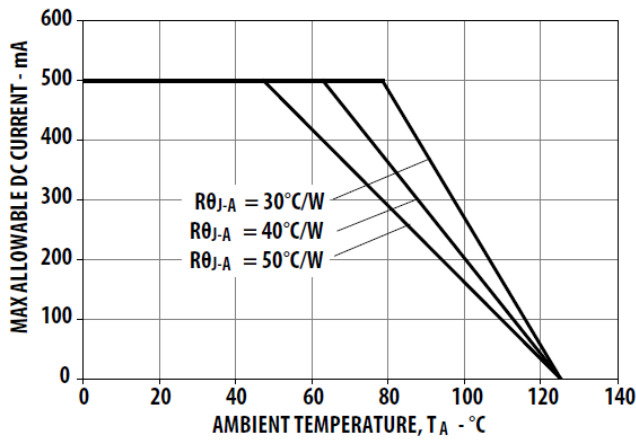

Figure 8. Maximum Forward Current vs. Ambient Temperature.
- Derate linearly based on Figure 8.